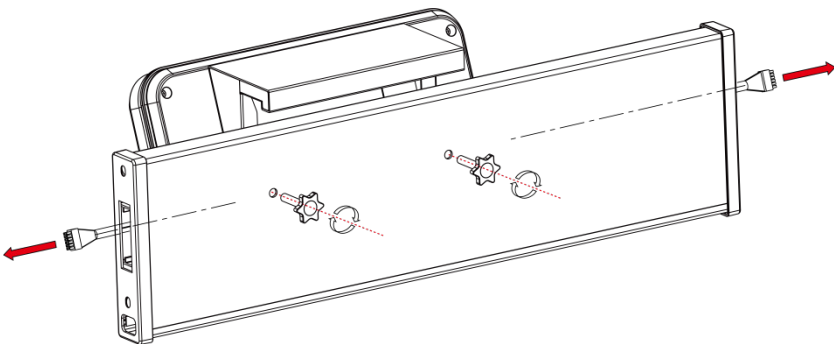

Figure 3-6
**Step 6:** After covering the beam cover, connect the host to the front beam with bolts, and tighten the screws with two Torx Thumb Screws, as shown in the figure 3-6 below.